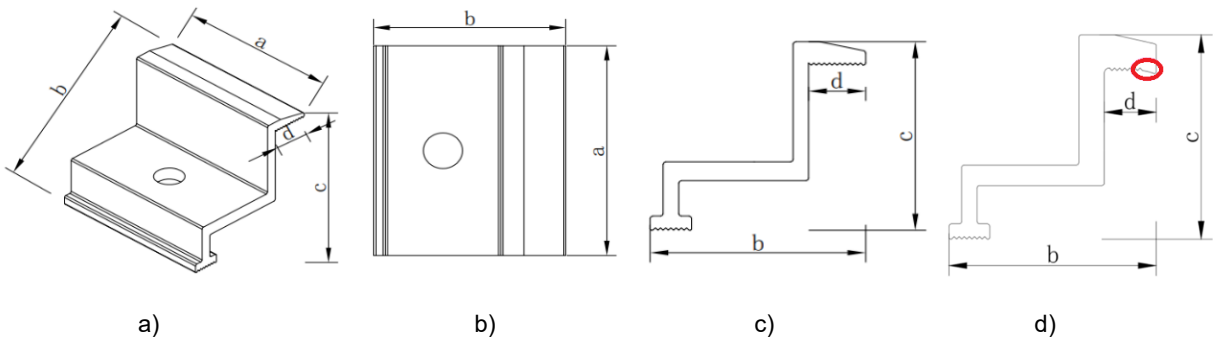

Figure 10. Recommended clamp schematic.
The clamps must not be installed in contact with the front glass of the Module and must not deform, or exercise excessive pressure on, the Module frame. Recommended clamp schematic shown as follows (see Figure 10). Ensure that the clamps do not create a shadow on the Module. Under no circumstances may the frame be altered. When choosing the mounting method for the clamps, make sure that there are at least four clamps on each Module. Different mounting positions of the
- c) Oversized Modules (size over 2.2 x 1.3 m) are recommended to be mounted with the camber clamps shown in Figure 10 - d), which enables the clamps to fit better with the frame and provide more stable performance under extreme environmental conditions.